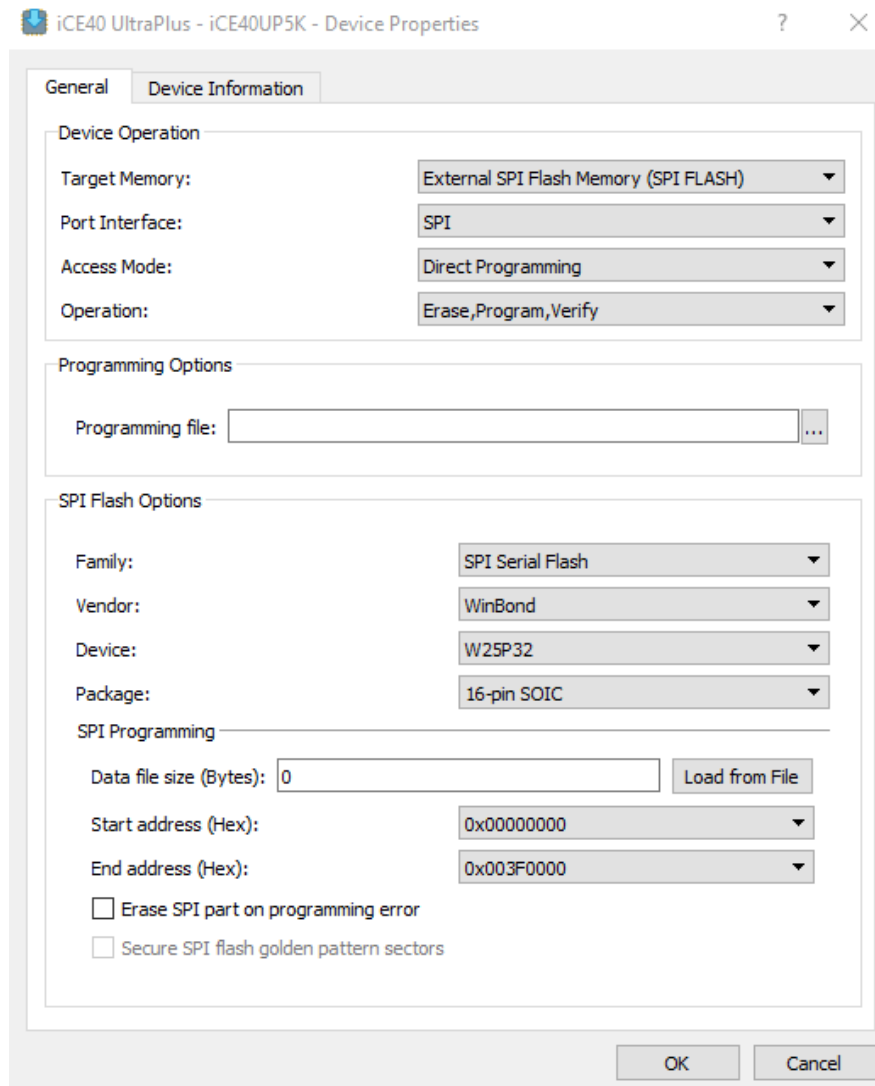

Figure 6.3. Onboard SPI Flash Device Properties Settings
6. In the **Device Properties** dialog box, apply the settings below that are common to the three files to program (see Figure 6.3).